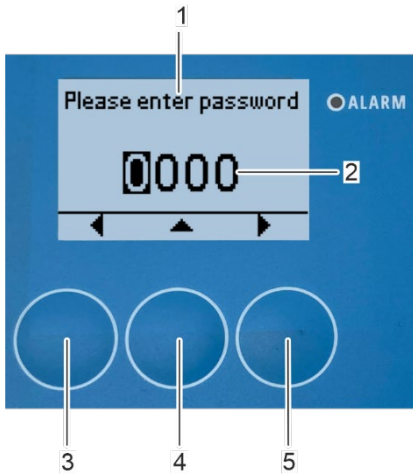

Fig. 121: Enter password
⇒ The display shows “Please enter password” (Fig. 121/1).
3. Enter the password (Fig. 121/2) by using the arrow keys [up] (Fig. 121/4), [left] (Fig. 121/3) and [right] (Fig. 121/5).
4. Use the arrow key [right] (Fig. 121/5) after you have selected the last password digit.